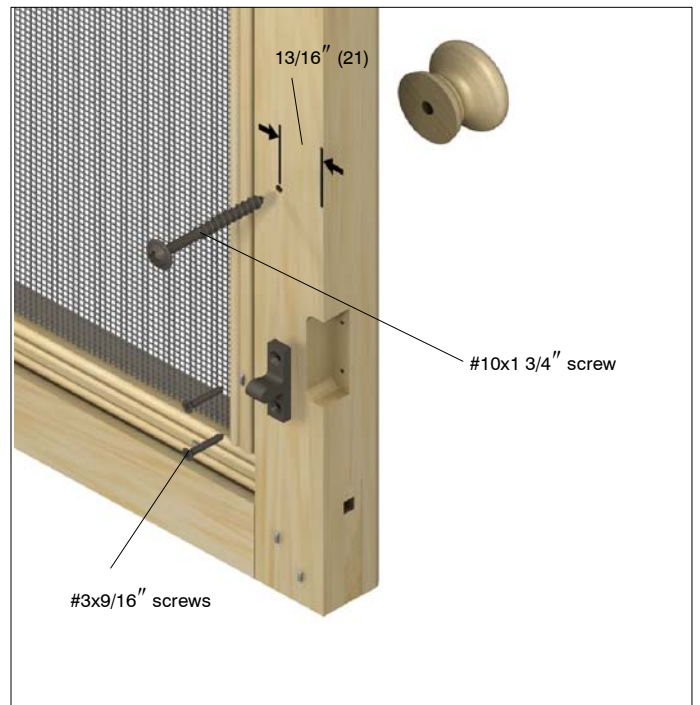

Figure 7
- Install screen catches at the pre-marked locations on the screen. Measure and mark, at your desired location, a spot 13/16" (21) in from the edge of the stile and drill a hole through the stile with a 3/16" bit. Install supplied screen knob. See figure 7.